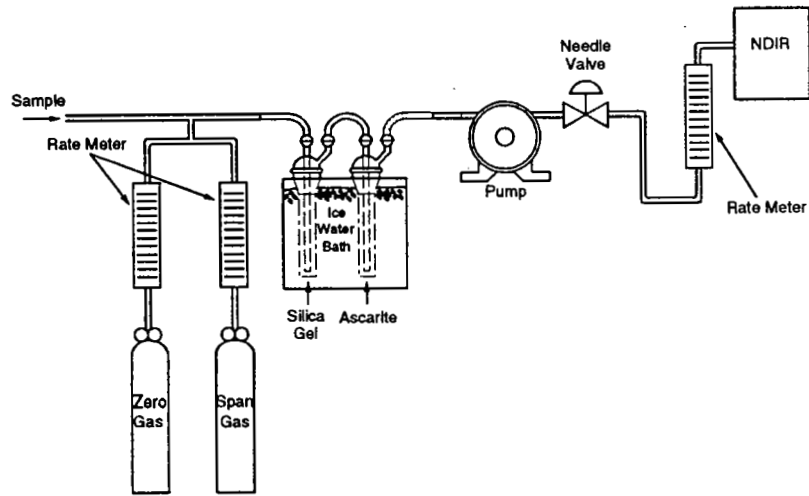

Figure F10-3. Analytical Equipment.
2. Set up the equipment as shown in Figure F10-3 with the bag disconnected. Evacuate the flexible bag again, if necessary.